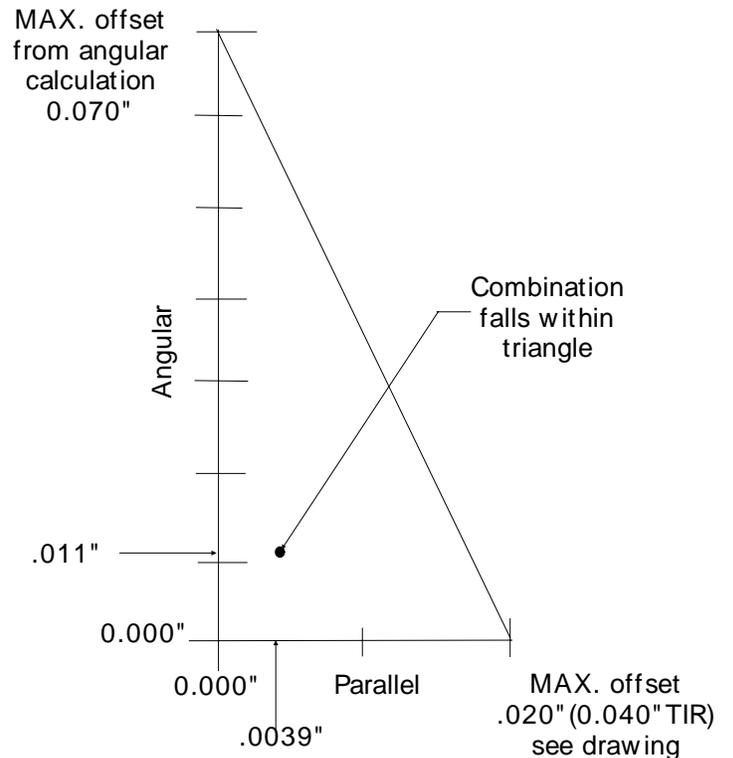

Figure 5
1.3.5 A combination of vertical and horizontal parallel alignment readings and maximum angular alignment readings are used to plot a specific location on a triangle graph. See Figure 5. These readings must fall within the triangle to be within the capability a that particular coupling.
Plot .0039" on parallel side of triangle(Fig.5).